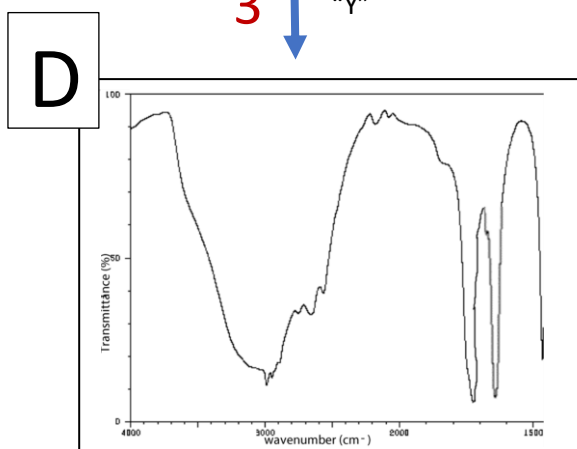

Figure 1 – Reaction pathway of propene.
1. Consider the reaction pathway shown in figure 1. The IR spectra of the different products formed are shown for wave numbers between 1500 cm^{-1} to 4000 cm^{-1} . Samples of each substance A, B, C and D were analysed after each step with IR spectroscopy. Substances A, B, C and D can be mixtures or pure substances.